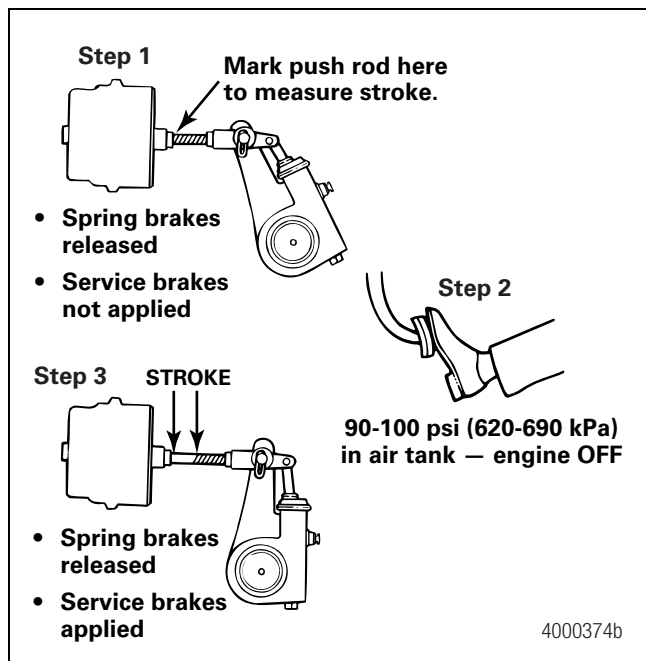

Figure 4
3. With the brakes released, mark the push rod where it exits the chamber. Measure and record the distance. Have another person apply and hold the brakes on full application. Figure 4. Hold the ruler parallel to the push rod and measure as carefully as possible. A measurement error can affect CVSA re-adjustment limits. CVSA states that "any brake 1/4-inch or more past the re-adjustment limit, or any two brakes less than 1/4-inch beyond the re-adjustment limit, will be cause for rejection."
4. Measure the push rod travel or adjusted chamber stroke from where the push rod exits the brake chamber to your mark on the push rod. Measure and record the distance. Figure 4.